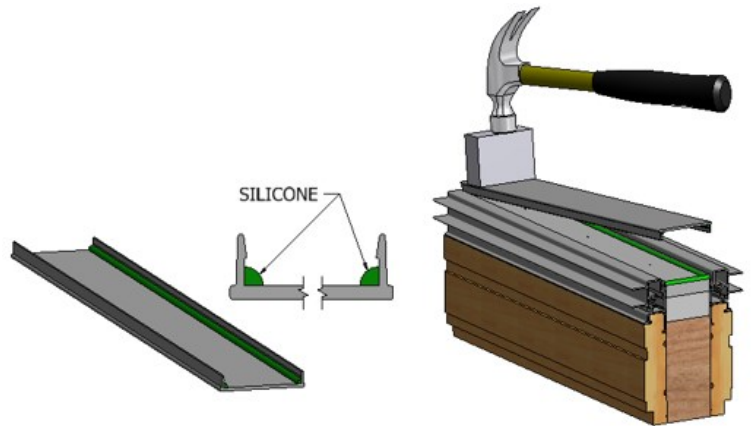

Figure 8
- N. Apply 3/16" silicone to mull covers inside legs (figure 8).